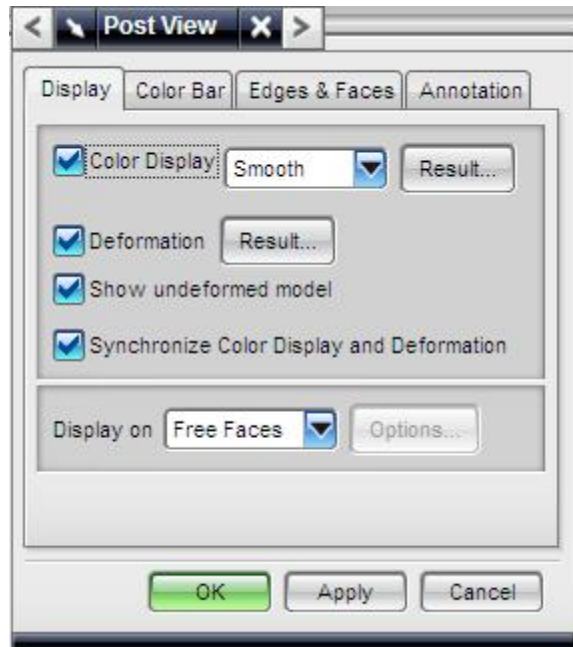

Figure 11. Post View Dialog
- b. To show the undeformed shape at the same time as the deformed results, double-click on “Post View 1” in the “Post-Processing Navigator.” In the “Post View” dialog, check “Show undeformed model” as shown in Figure 11 and press “OK.”